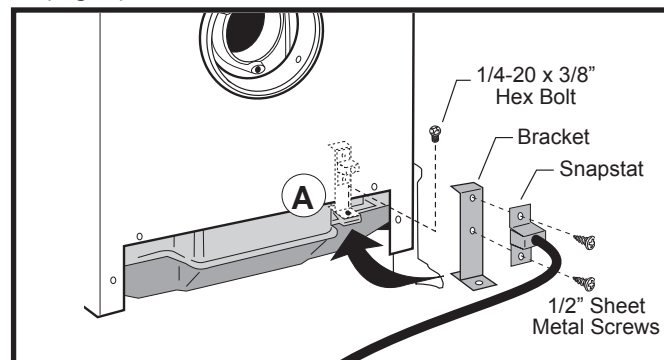

Fig. 1 Snapstat assembly and installation. (PDV20 shown)
1. Attach the Snapstat to the Bracket using two #10 x 1/2" phillips screws as shown in Figure 1.
2. Locate and remove the 1/4-20 x 3/8" hex head bolt installed in the hole in the right rear ledge of the firebox. (A, Fig. 1) Use that bolt to secure the Snapstat Bracket to the firebox. The mounting hole is slotted to let you adjust the bracket so that the snapstat head makes contact with the firebox surface. (Fig. 1)